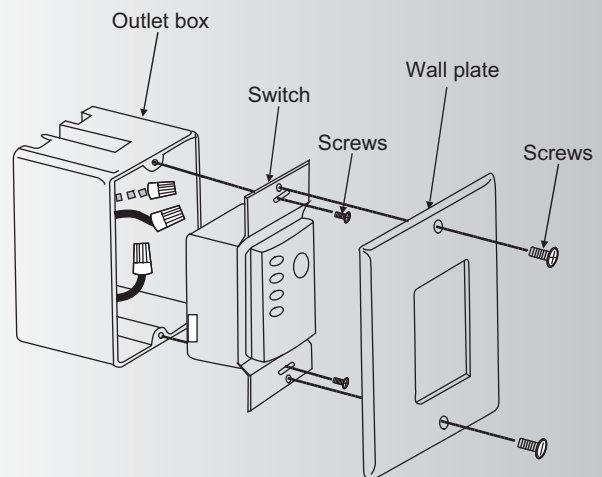

Fig. 24
Step 2. Install the wall plate on the existing wall outlet box using the screws provided. (Fig. 24)